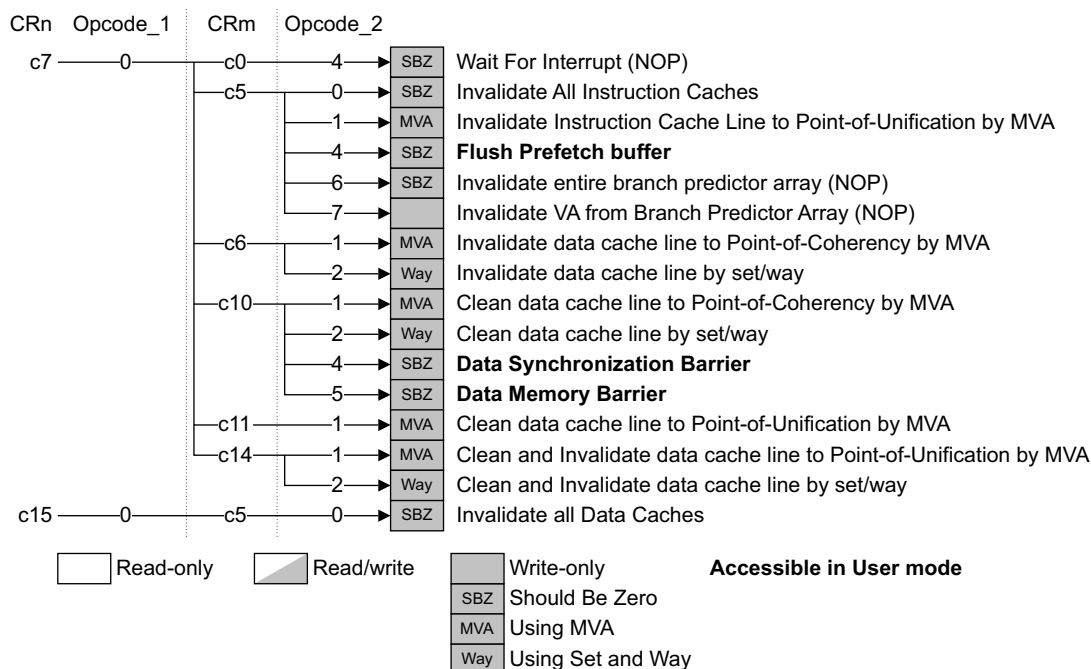

Figure 4-37 Cache operations
Figure 4-37 on page 4-59 shows the arrangement of the functions in this group that operate with the MCR and MRC instructions.
The following operations, as Figure 4-37 on page 4-59 shows, are implemented as No Operation, NOP, on the processor:
- Writing c7 with a combination of CRm and Opcode_2 not listed in Figure 4-37 results in an Undefined Instruction exception.